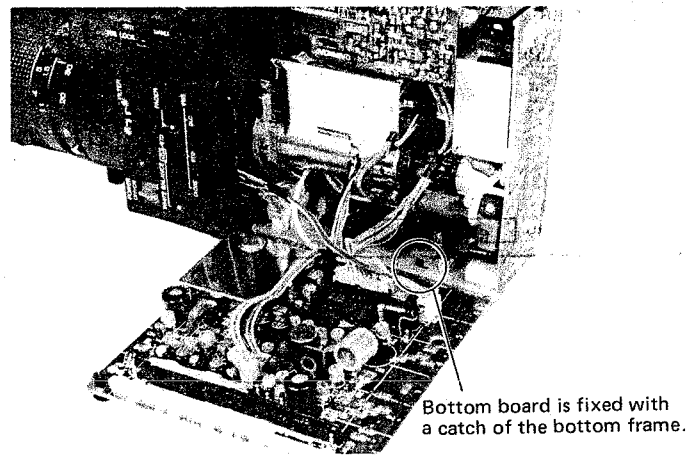

Fig. 1-10 Removal of camera board ass'y
- As shown in Fig. 1-10, the catch (encircled in the figure) of the bottom frame is fixed in the groove of the bottom board. To remove the camera board ass'y, push the catch in the direction of the arrow with thumb and forefinger and remove the bottom board from the groove.